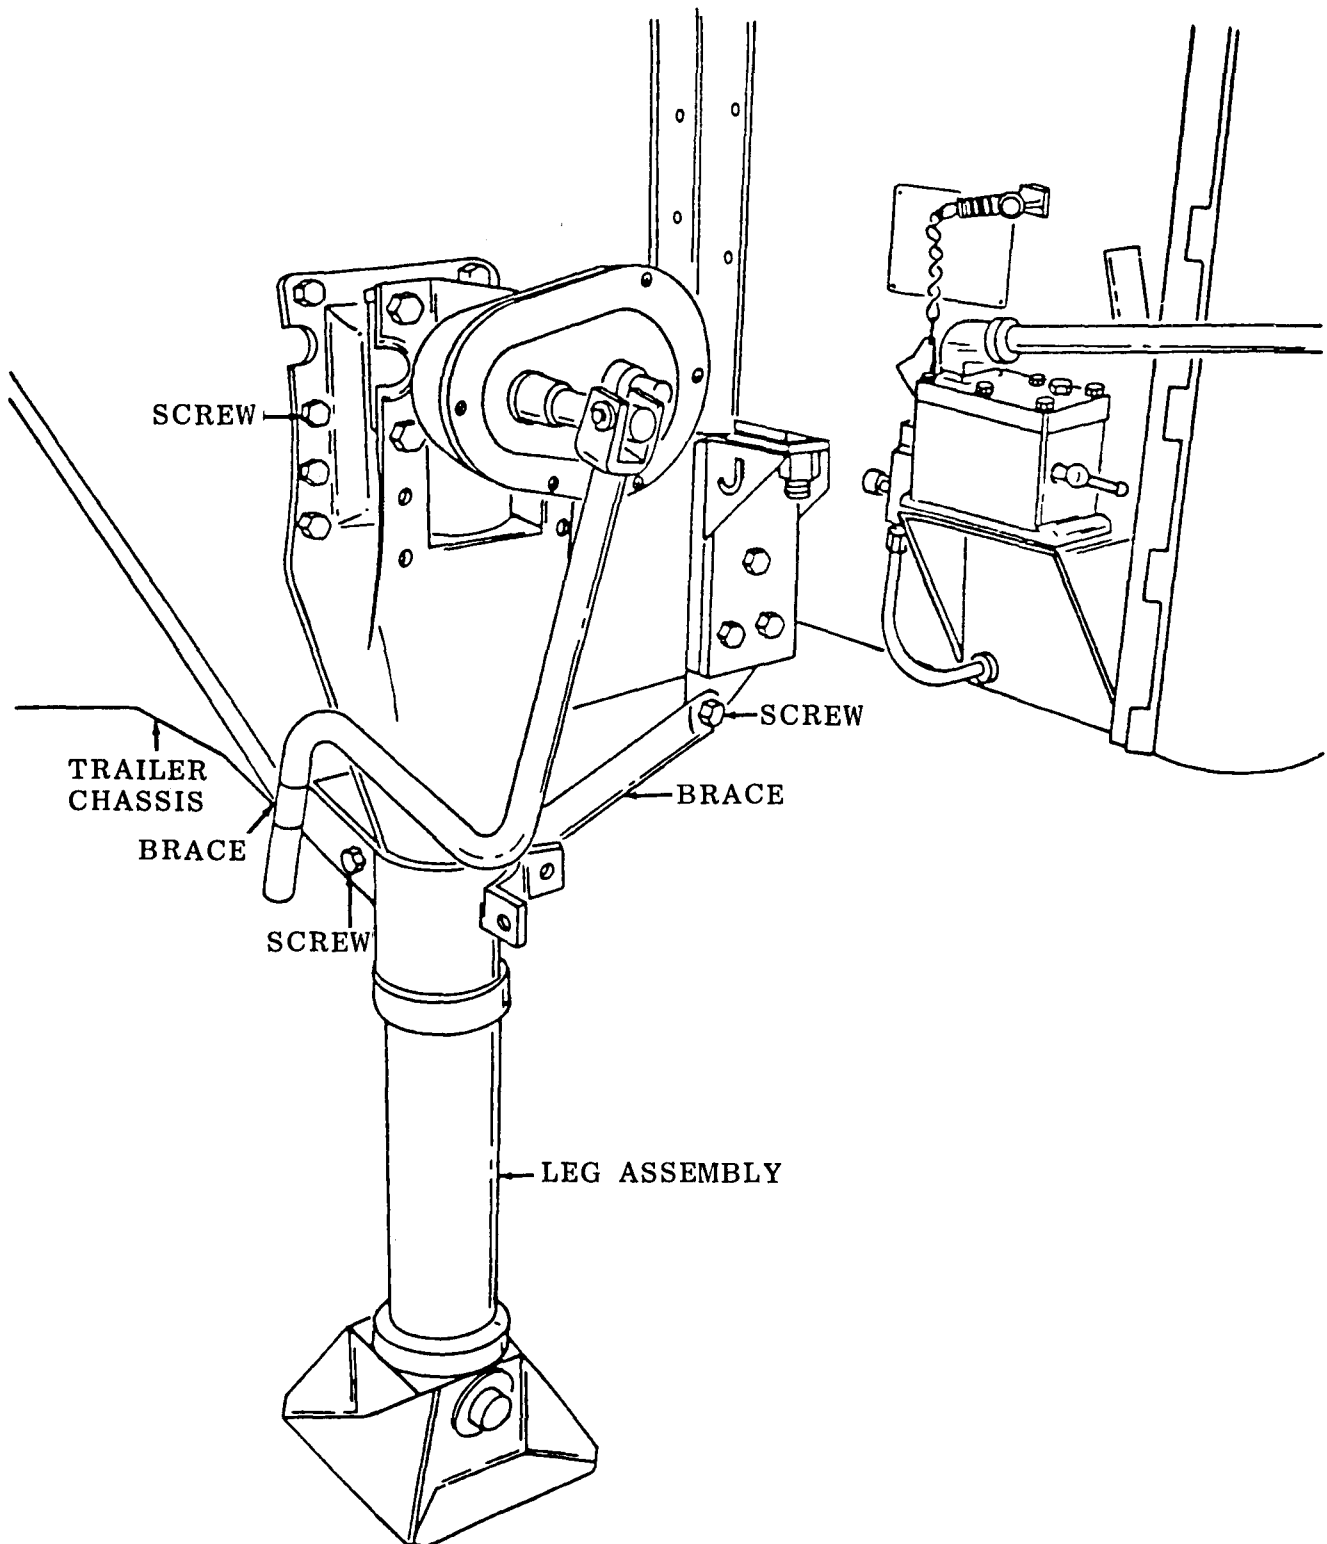
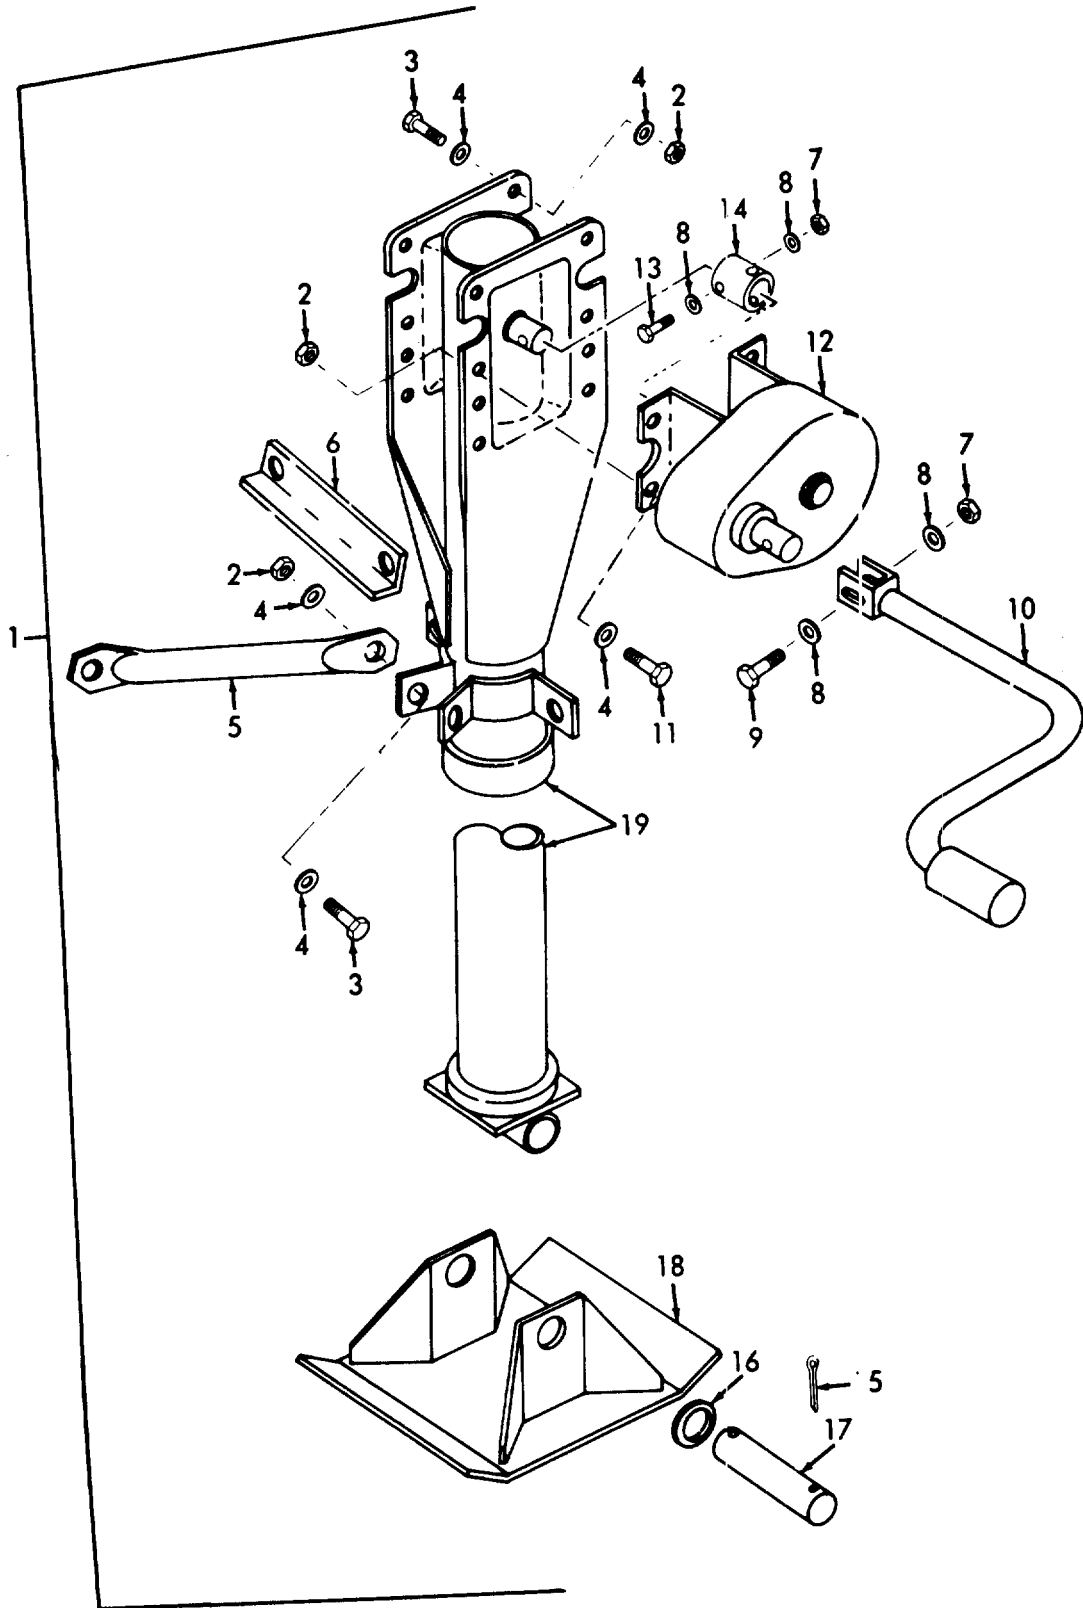

Figure 19-11. Landing Gear, Removal and Installation.
Figure 19-12. Landing Gear.
- (1) Raise and block up front of trailer chassis. Chock wheels to prevent movement of vehicle.
- (2) Remove the two screws that secure the two braces to the leg assembly (fig. 19-11).
- (3) Remove the eight screws that secure the leg assembly to the trailer chassis. Remove the leg assembly.
- (4) Remove the remaining leg assembly in a similar manner.
b. Disassembly. Disassemble the landing gear leg assembly as illustrated in figure 19-12.c. Cleaning, Inspection, and Repair.
- (1) Clean all parts with approved cleaning solvent and dry thoroughly .
- (2) Inspect all parts for wear, distortion or cracks. With fine file, hand-chase at ends of screws on leg assemblies. Check gears and retaining nuts for damage and replace if necessary. Check screw and nut on leg assemblies for damage, wear, or corrosion. Inspect roller bearings for wear and replace if unserviceable. Inspect bearings for signs of damage and wear. Replace if defective. Inspect gear shaft for burrs, damage and wear. Replace if necessary. Check to be sure that contact surface of gib is smooth. Clean and inspect all exterior surfaces for chipped paint. Repaint as necessary after scraping chipped paint. Check lube fittings for serviceability y. Replace all parts as necessary.
LEGEND FOR FIGURE 19-12:
- d. Assembly. Reassemble the landing gear leg assembly as illustrated in figure 19-12.
- (1) Position the landing gear leg assembly to the trailer chassis and secure with eight screws (fig. 19-11).
- (2) Position the two braces between the chassis and the leg assembly and secure with a screw, washer, and nut at each end of both braces.